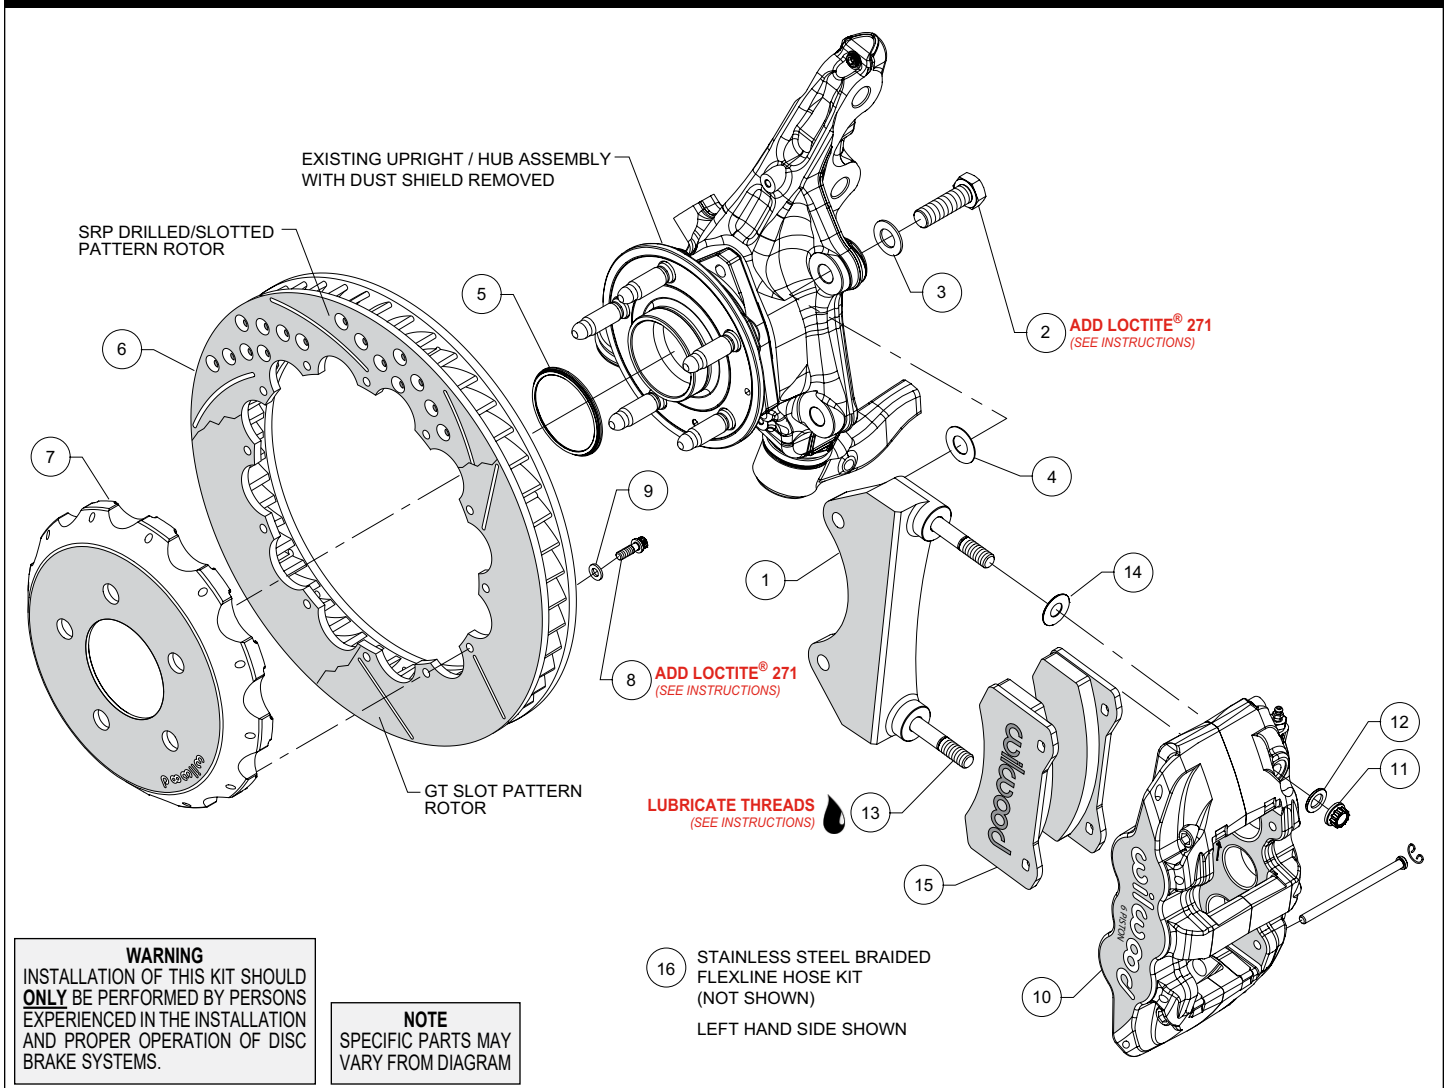
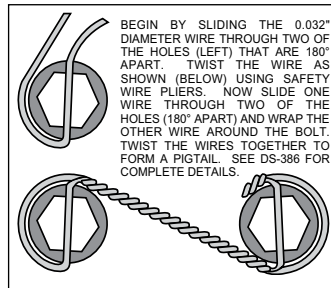

Figure 1. Typical Installation Configuration
Figure 3. Safety Wire Diagram
Assembly Instructions (numbers in parenthesis refer to the parts list and Figure 1 on the preceding pages):
- The caliper mount bracket (1) should initially be installed with clean, dry threads on the mounting bolts. Orient the bracket as shown in Figure 1, and Photo 1 and install using bolts (2) and washers (3). Initially place one .029" thick shim (4) on each bolt between the bracket and upright, Figure 1. Temporarily tighten the mounting bolts. **NOTE: The bracket must fit squarely against the mount bosses on the upright.** Inspect for interference from casting irregularities, machining ridges, burrs, etc. Later, after the caliper alignment has been checked, the mount bolts will be secured using red *Loctite*® 271.
- Orient the rotor (6) and the hat (7) as shown in Figure 1 and Photo 2. Attach rotor to hat using bolts (8) and washers (9). Apply red *Loctite*® 271 to the bolt threads and torque to 155 in-lb using a criss-cross pattern. For an added measure of security, the bolts may be safety wired using standard 0.032 inch diameter stainless steel safety wire as shown in Figure 3. Please refer to Wilwood's data sheet DS-386 (available at www.wilwood.com/Pdf/DataSheets/ds386.pdf) for complete safety wire installation instructions.
- **NOTE: This kit contains distinct right and left hand calipers that must be mounted in a specific direction, as described below.** Lubricate the caliper mounting studs (13) with lightweight oil. Initially place one .030" thick shim (14) on each stud as shown in Figure 1 and Photo 5. Mount the caliper (10) onto the bracket (1) using lock nuts (11) and washers (12), Figure 1. Ensure that the caliper is mounted so that the largest pistons are at the rotor exit end of the caliper, in relation to the direction of rotor rotation. Temporarily tighten the lock nuts and view the rotor through the top opening of the caliper. The rotor should be centered in the caliper, Photo 6. If not, adjust by adding or subtracting shims (4) between the bracket and the upright. Always use the same amount of shims on each of the two mounting bolts. Once the caliper alignment is correct, remove the bracket mounting bolts (2) one at a time, apply red *Loctite*® 271 to the threads, and torque to 77 ft-lb.
- Remove the two pad retaining pins from the caliper (10) by carefully popping out the pin retaining clips and sliding out the pins. Insert the brake pads (15) into the caliper from the bottom, Figure 1 and Photo 7. With the friction material facing the rotor, secure the brake pads in place with the pad retaining pins and clips, Photo 8. Reinstall the caliper onto the caliper mounting bracket and temporarily tighten the lock nuts. Check that the top of the brake pad is flush with the outside diameter of the rotor, Photo 9. If not, adjust by adding or subtracting shims (14) between the caliper and the bracket. After the caliper pad height is set, torque the caliper lock nuts (11) to 47 ft-lb.